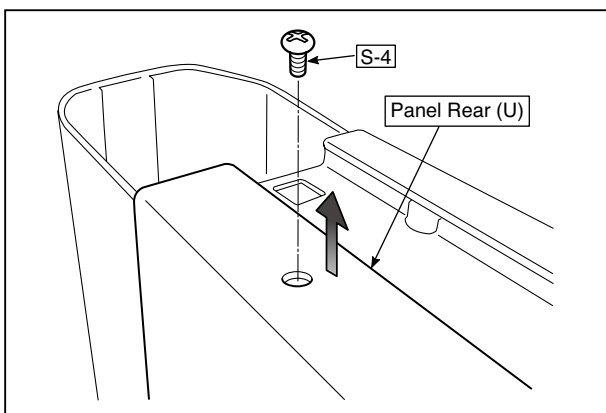

Fig.28
### 19) Remove the Panel Rear. (See Fig. 28 and 29)
1. Remove the "S-4" screws shown in the figure 28 and then remove the Panel Rear (U).